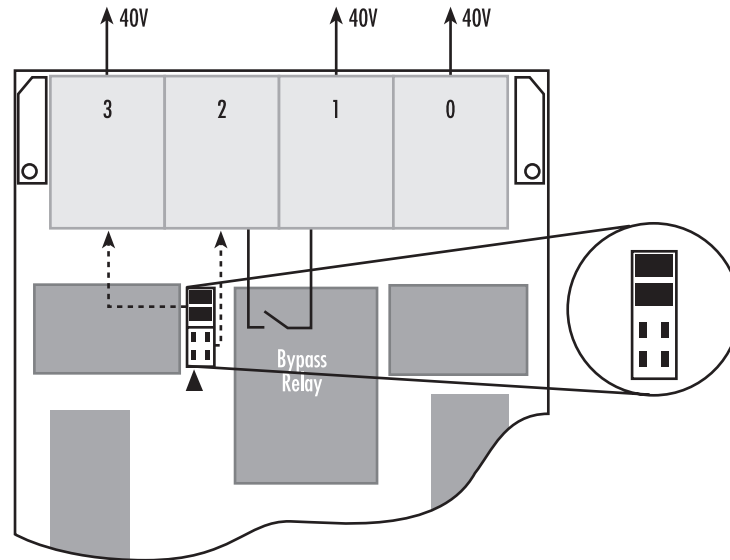

Figure 22. Upper four jumper pins bridged
- Upper four jumper pins bridged: this setting is used with port 2 configured as fallback and connected to a NT as shown in figure 22 on page 40.